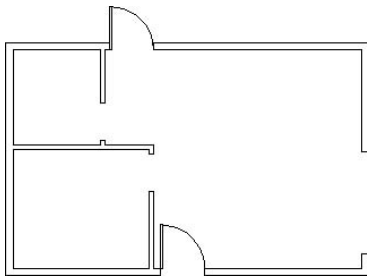

FIGURE 4.34: The door is copied to the back door opening.
3. Activate the Endpoint Osnap and pick the lower end of the left jamb line on the back door opening. The copy of the door and swing is placed in the opening (see Figure 4.34), and by looking at the Command window, you can see that the Copy command is still running. Notice that a copy of the door and swing remains attached to the cursor. Press \downarrow to end the command.